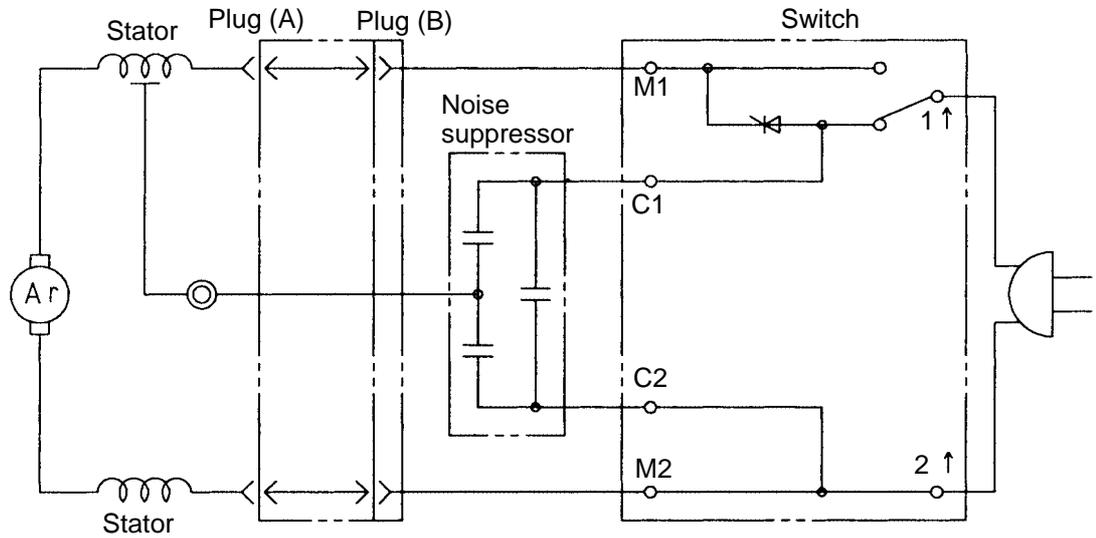

Fig. 16
Insert each cord into the terminal 1† and terminal 2† of the speed control switch as shown in Fig. 18 and tighten the screw [tightening torque:  $0.6 \pm 0.2 \text{ N}\cdot\text{m}$  ( $6 \pm 2 \text{ kg}\cdot\text{cm}$ ,  $5.2 \pm 1.7 \text{ in}\cdot\text{lbs.}$ )]. Insert each lead wire (black) coming from Plug (B) into the terminals M1 and M2. Insert each lead wire (black) coming from the noise suppressor into the terminals C1 and C2. After insertion, pull each lead wire slightly to check the lead wires do not come off. To disconnect the lead wires, insert a small flatblade screwdriver into the slots near the terminals and pull out the lead wires. (Fig. 16)